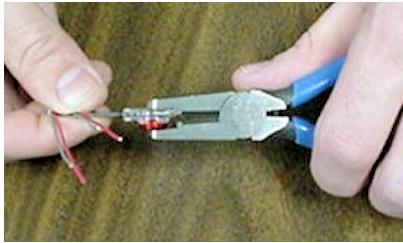

Figure 38 – UR Crimping Tool
6. Place the connector (red cap side down) between the jaws of the UR crimping tool as shown in Figure 38.